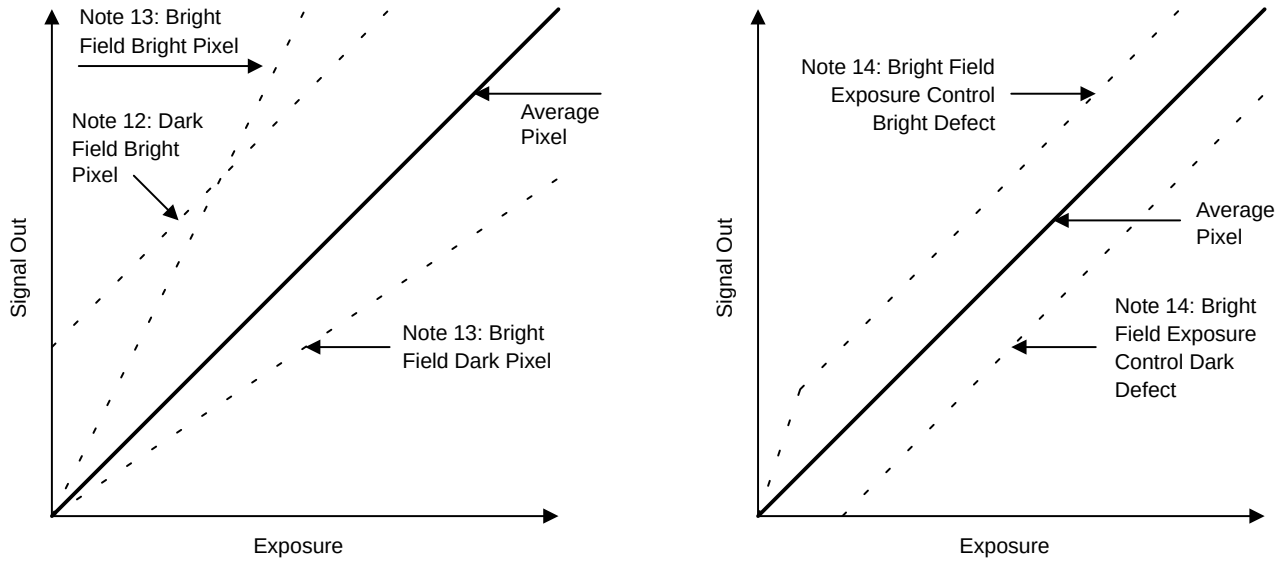

Figure 4. Illustration of Defect Classifications
$f_{CLK} = 1$ MHz, AR coverglass, color filters, and an active load as shown in Figure 4 unless otherwise specified. See notes on next page for further descriptions.
12. Pixels whose response is greater than the average response by the specified threshold, (16 mV). See Figure 4.
13. Pixels whose response is greater or less than the average response by the specified threshold, (±10%). See Figure 4.
14. Pixels whose response deviates from the average pixel response by the specified threshold, (4 mV), when operating in exposure control mode. See Figure 4. If dark pattern correction is used with exposure control, the dark pattern acquisition should be completed with exposure control actuated. Dark current tends to suppress the magnitude of these defects as observed in typical applications, hence line rate changes may affect perceived defect magnitude. Note: Zero defects allowed for those pixels whose response deviates from the average pixel response by a 20 mV threshold.